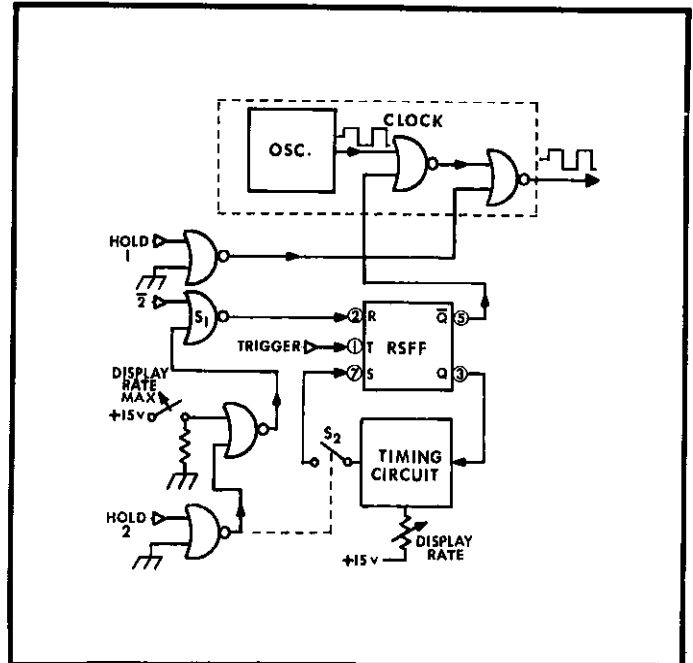

FIGURE 14. Delay Hold Diagram.
e. Delay Hold. The Delay Hold circuit controls the DISPLAY RATE function and external Hold and Trigger commands as shown in Figure 14. It determines the length of time between A/D conversions when the front panel DISPLAY RATE Control is set to any position other than MAX. The clock is stopped at the beginning of the ZERO (2) period for a time determined by the rotation of the DISPLAY RATE Control. It ensures that when the Hold 2 is grounded the conversion in process will be completed and new data will be stored in the output storage register. Then the clock will be inhibited at the beginning of the ZERO period (2). The instrument will remain in this condition indefinitely until Hold 2 is released or until Trigger is shorted to ground. After conversion, the instrument will again be inhibited at the beginning of the period (2). If both Switches S₁ and S₂ are closed, the conversion cycle works in the following manner. After the previous conversion has been completed, the leading edge of the program command (2) resets the flip-flop. In this new condition Q is high and, therefore, the clock gives no output. At that time, the unijunction timer begins its cycle and, after the appropriate time, produces a pulse that sets the flip-flop. This changes Q to a low state and a new conversion cycle begins. After the reading has been completed, the (2) command again resets the flip-flop and the timer again issues a new pulse to set the flip-flop.